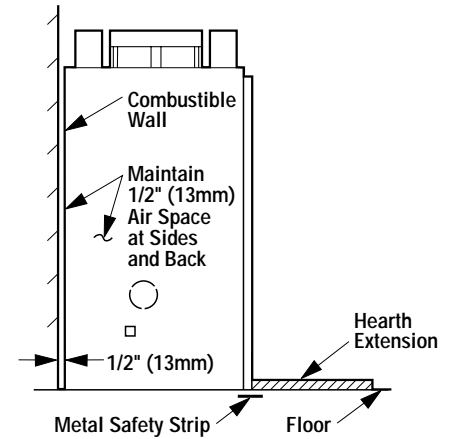

Figure 6
Step 2. Insert the provided metal safety strips, beneath the fireplace as illustrated (**Figures 6, 7 and 8**). The safety strips should overlap 1/2" min. for continual coverage of the floor.